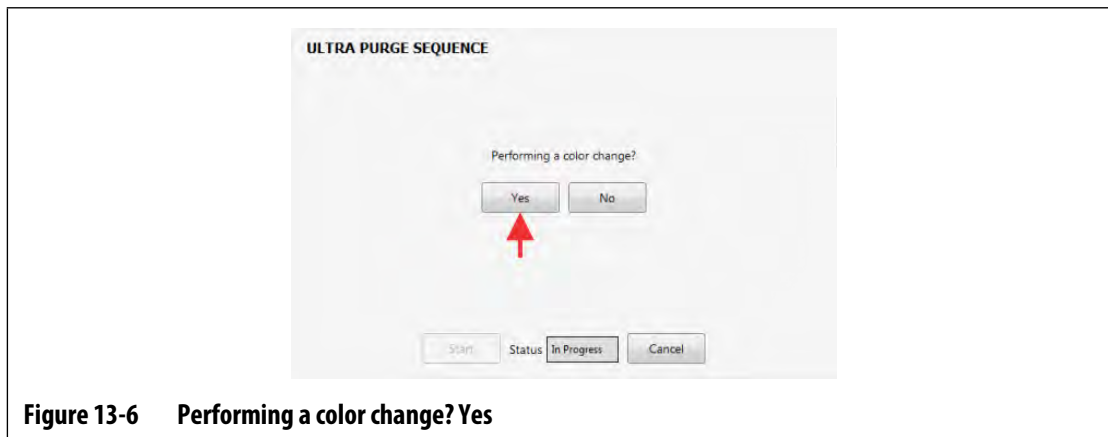

Figure 13-6 Performing a color change? Yes
- When asked if you are performing a color change, touch the **Yes** button (refer to Figure 13-6).
- When asked if you have thermal sensitive resin, touch the **No** button (refer to Figure 13-6).